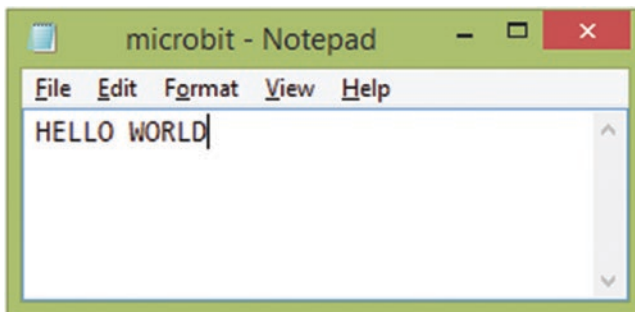

Figure 7-2. Source file with text
1. Using a text editor, create a file with your sentence (or many sentences) in English. You should include at least two words in your file, otherwise the compilation will fail. Then, save the file on your computer (see Figure 7-2).